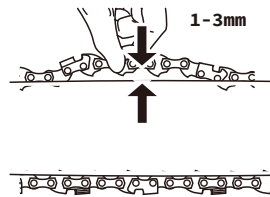

Fig.8B
4. Check the tension level by pulling the chain 3mm away from the guide bar with light force. Your chain is at the correct level of tension if there is no "sag" between the guide bar and the chain on the underside. (Fig. 8B)